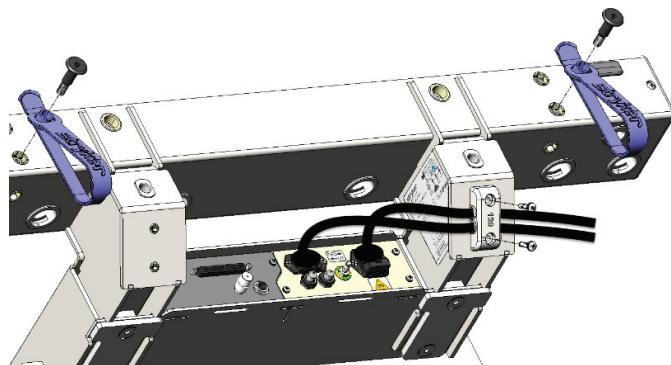

Figure 5 – Cord replacement
**Note** - Make sure that each cord is routed to the right with excess cord length ahead of the clamp (Figure 5).